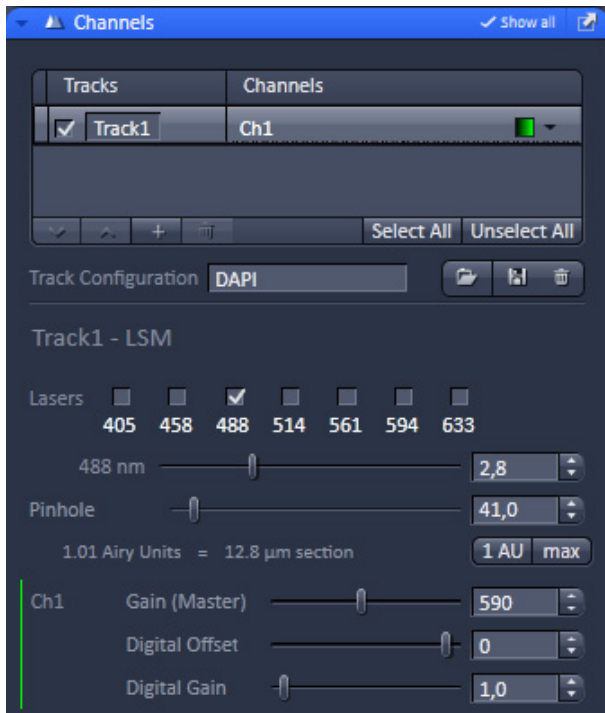

Fig. 439 Channels tool
- On the **Channels** tool in the LSM **Acquisition Parameter** tool group select the pinhole diameter so as to have the best possible image contrast (see Fig. 439).